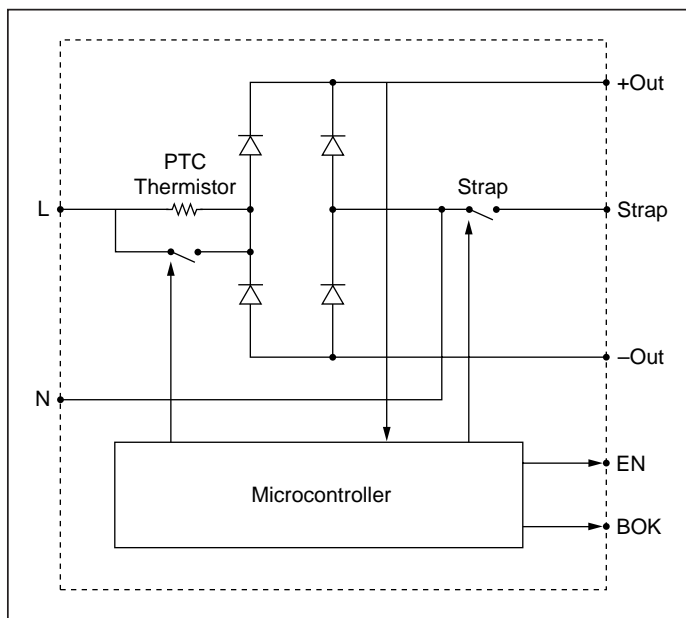

Figure 6—Functional block diagram
The switch that bypasses the inrush limiting PTC (positive temperature coefficient) thermistor is open when power is applied, as is the switch that engages the strap for voltage doubling. (See Fig. 6). In addition, the converter modules are disabled via the Enable (EN) line, and Bus-OK (B OK) is high.